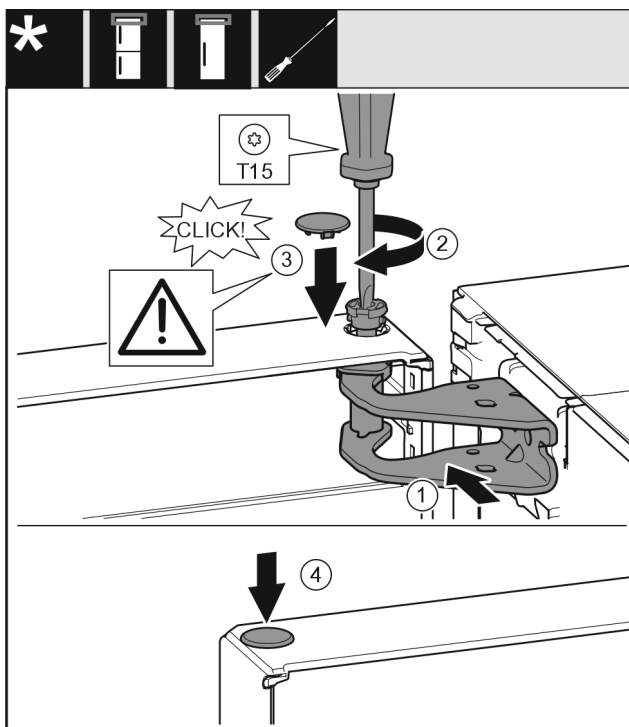

Fig. 21
- ▶ Align the top of the door with opening in the bearing bracket. Fig. 21 (1)
- ▶ Insert the bolt and tighten with a T15 screwdriver. Fig. 21 (2)
- ▶ Fit the protective cover to protect the door: Insert the protective cover and check that it lies flush on the door. If not, insert the bolt fully. Fig. 21 (3)
- ▶ Insert the plugs. Fig. 21 (4)